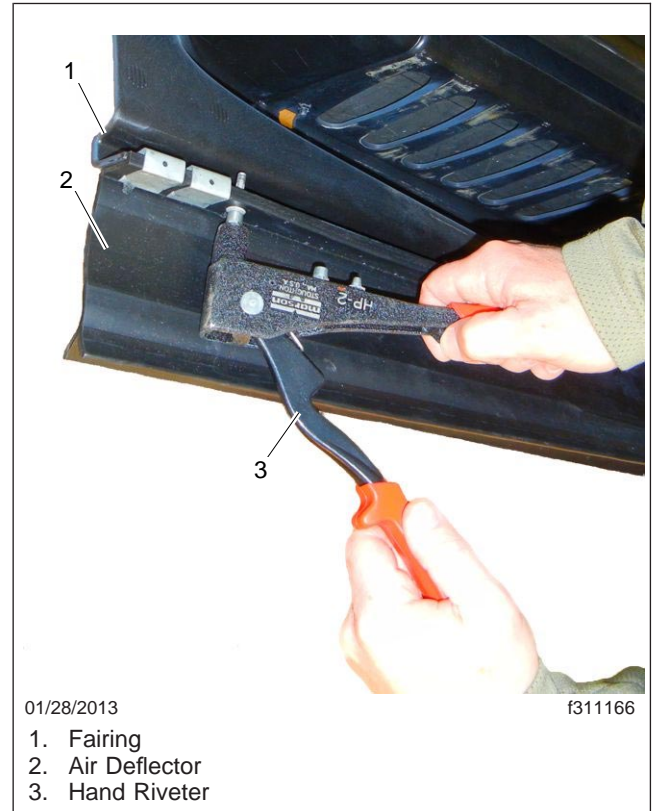

Fig. 4, Riveting a Deflector to a Fairing
4. Install a rivet in the drilled hole to attach the deflector to the fairing. See Fig. 4.